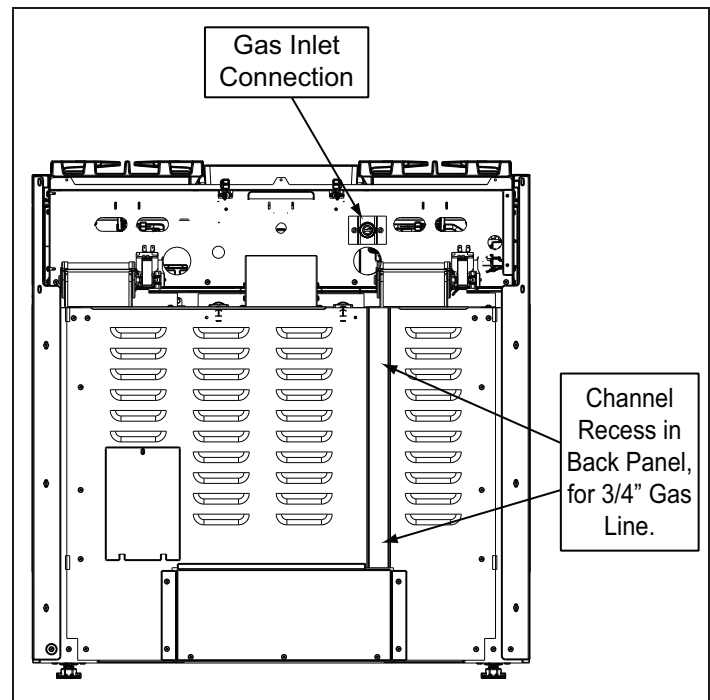

Figure 8: : Appliance Manifold Pipe Connection
- Use 3/4" flex line to connect between the gas supply and the appliance inlet pipe, which exits the upper rear of the appliance. The appliance pipe connection has a 3/4" NPT external thread and a 1/2" NPT internal thread. (See Figure 8.) Use caution to avoid crimping the 3/4" flex line when making bends.